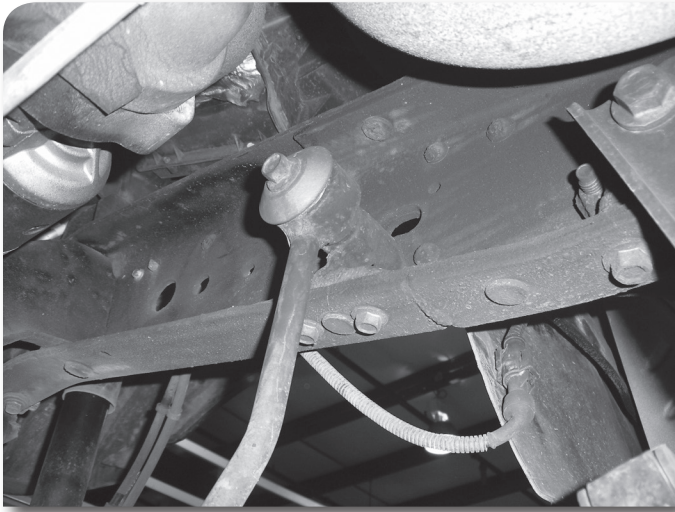
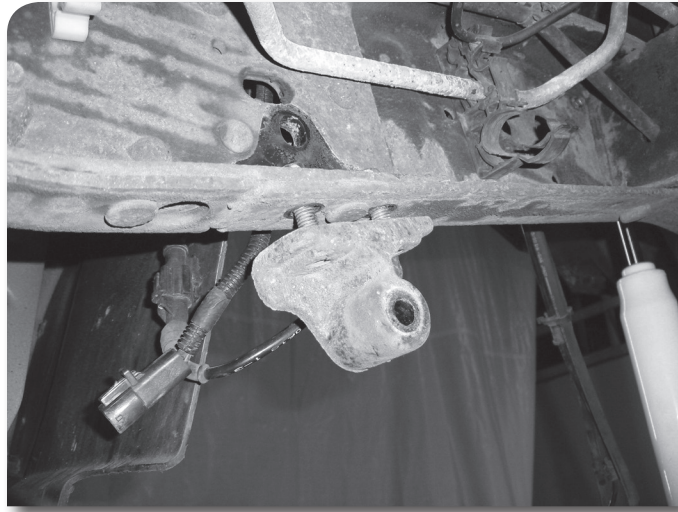

Figure 3a
Figure 10
7. Disconnect the front sway bar links from the sway bar and frame. Save links and hardware. **Figure 3a & b** New model shown, others similar.
21. Kit F1405 Only: Locate the factory sway bar mounts inside the frame rails. **Figure 3A** Remove the two bolts and the mounts from the inside of the frame rails and reinstall on the bottom of the frame with the original bolts. **Figure 10** Install the mounts so the small ID of the link mounting hole is toward the inside of the vehicle. Torque the link mount bolts to 35 ft-lbs.